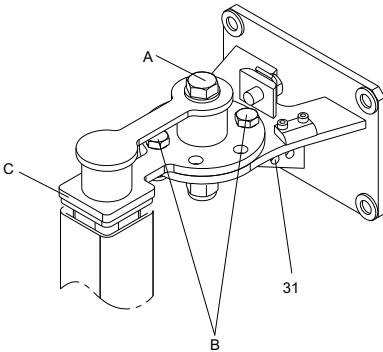

Fig. 5 Top fixation
7. Position and align the column profile with the profile section on the connection flange. Shorten the column profile (pos. 2) to the correct length to match the position of epoxy insulator (pos. C) at the top fixation bracket. A gap of 5 to 10 mm between collar of epoxy and column profile is optimal. See fig. 5.
15. Mount the top end of the safety wire to the hole (pos. 31, fig. 5) of the top fixation bracket by means of a shackle. The other end of the safety wire ends in a shackle through which the lifting wire must run.